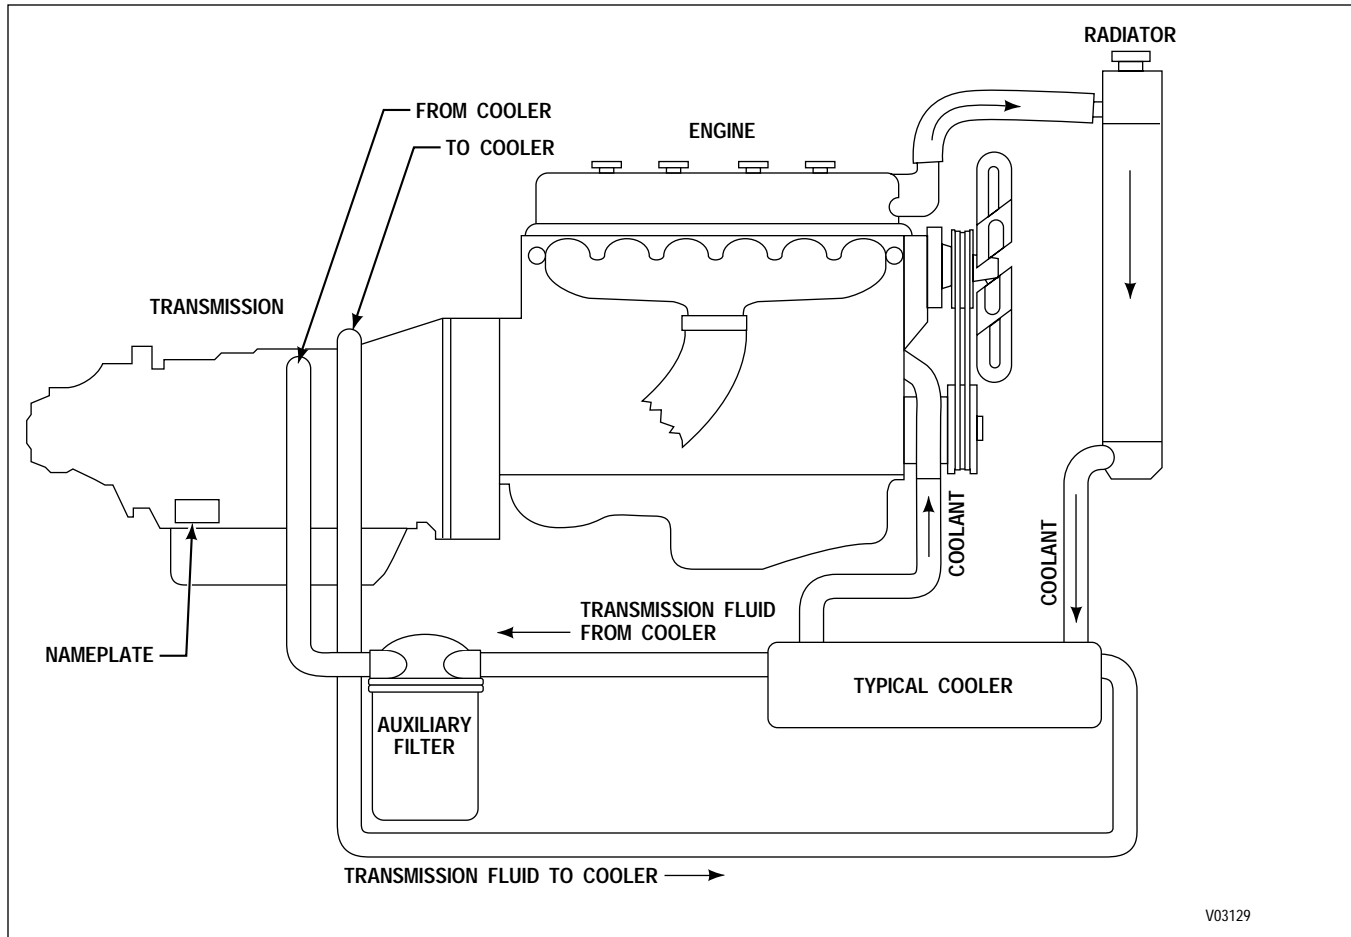

Figure 3-4. Installation of Auxiliary Filter (Models Without Retarder)
d. Auxiliary Filter (Figure 3-4)
(1) If a condition occurs that introduces debris into the hydraulic system, completely clean-up the cooler and lines.